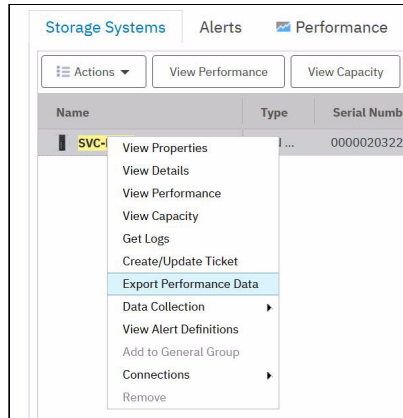

Figure 9-86 Selecting Export Performance Data
2. Right-click the storage system and select **Export Performance Data** (see Figure 9-86 on page 634).